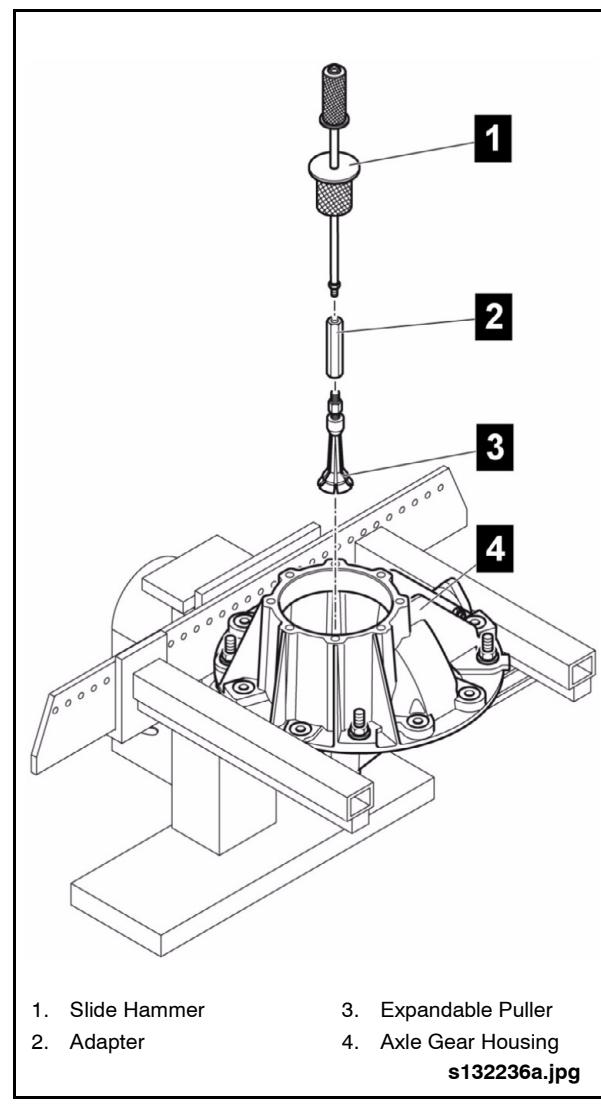

Fig. 2-79: Removing Roller Bearing
2. Assemble the Slide Hammer (Item 2 from Special Tools List) with Threaded Adapter (Item 69 from Special Tools List) and Expandable Puller (Item 70 from Special Tools List). See “Fig. 2-79: Removing Roller Bearing” on page 64.